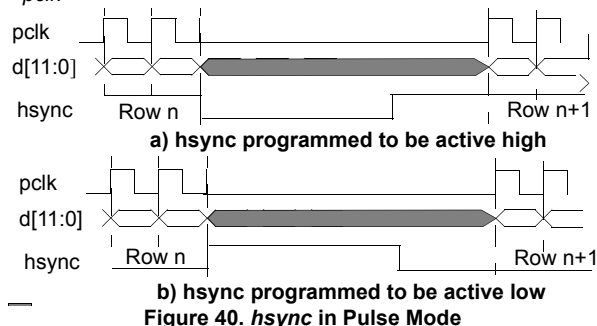

Figure 40. *hsync* in Pulse Mode
- Pulse mode should be used when the pixel clock, *pclk*, is programmed to operate in *data ready mode*. In pulse mode the *hsync* output pin will produce a pulse at the end of each row. The width of the pulse will be a minimum of four *pclk* cycles and its polarity can be programmed as shown in Figure 40. The *hsync* level is always synchronized to the active edge of *pclk*.